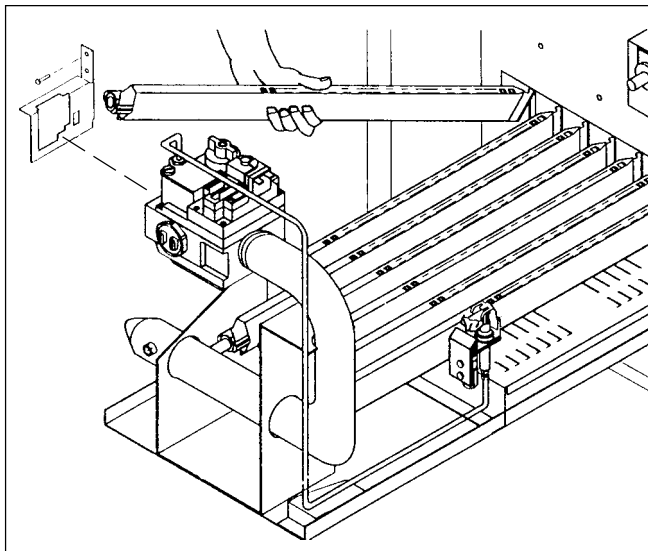

Figure 32. Burner Removal and Gas Valve.
5. Disconnect the service union in the gas line, and unscrew the main gas pipe from the gas valve (see Figure 32).
6. Remove the two screws that fastens the anti-rotation bracket on the left side of the gas valve (see Figure 32).
9. Pull the burner tray out of the boiler (see Figure 32).
10. Hold the gas burner or pilot burner firmly, and push it away from the manifold until it is clear of the orifice. Slide the burner to be replaced out of the burner tray (see Figure 32).
16. Install the anti-rotation bracket to the inner panel and fasten with two screws (see Figure 32).
18. Connect the service union in the gas line, and screw the main gas pipe to the gas valve (see Figure 32).